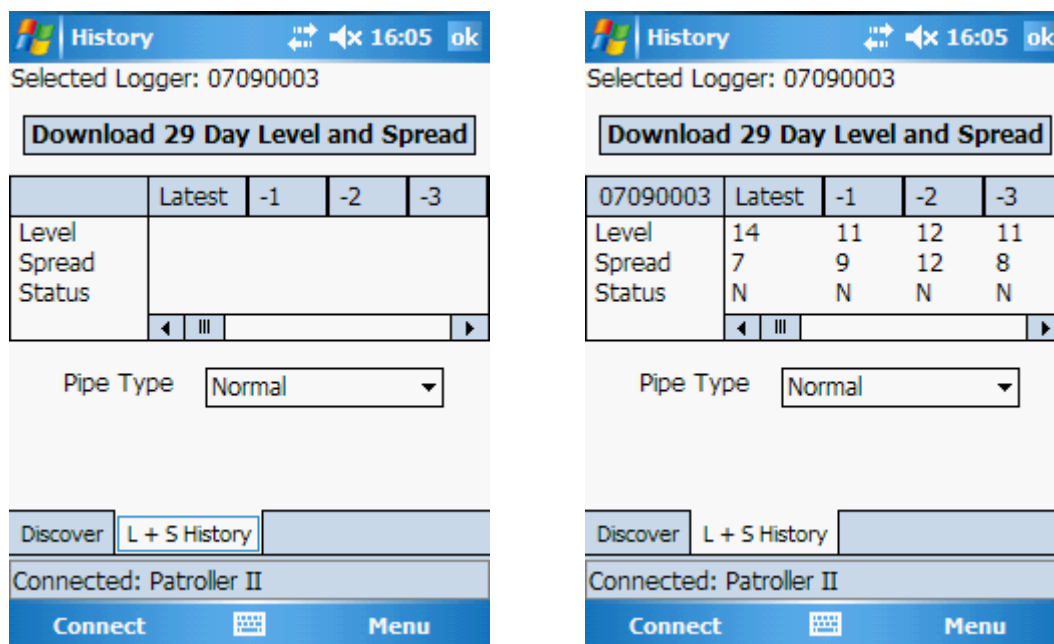

Figure 32: History - L+S History
'L+S History' tab, see *Figure 32*, allows the user to download 29 Day Level and Spread.
4. Go to 'L + S History' tab as shown in *Figure 32*.
7. When the process is completed, the table will automatically be populated as shown in *Figure 32*.